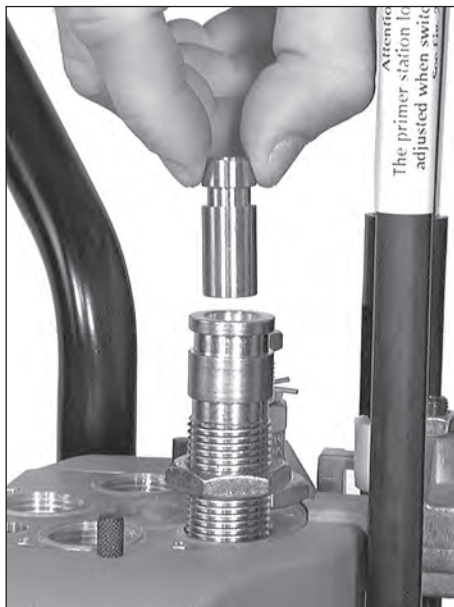

FIG 91
4. Insert the funnel into the die **FIG 91**. Regardless of whether you're using a rifle or pistol powder funnel, make sure that you insert the funnel into the die with the grooved end up. It should move up and down freely.